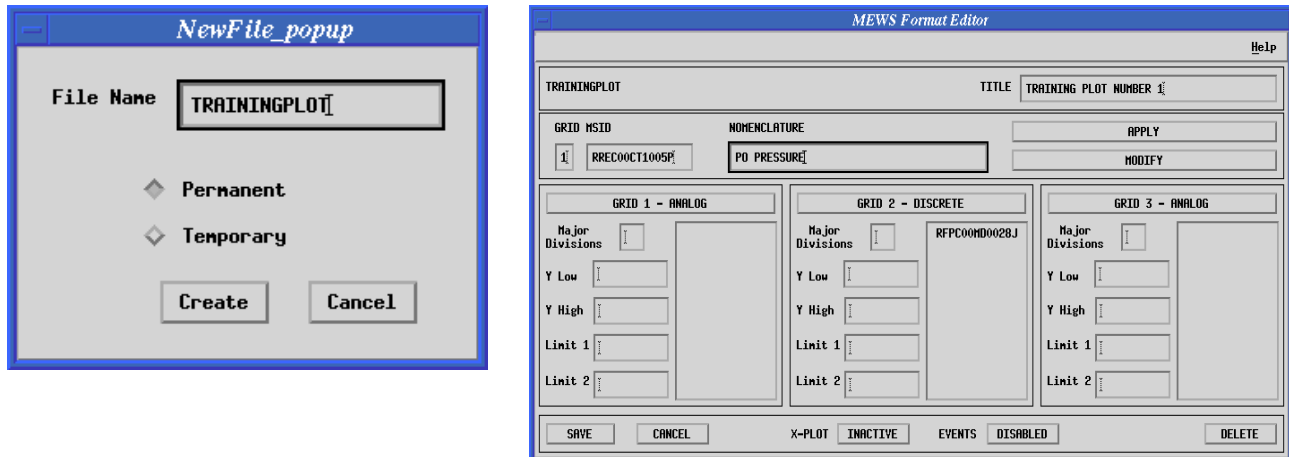

Figure 4-19. More MEWS plot windows
3. Click on **Format**, then **Create Format File**. The Format Name is defined in the first window (Figure 4-19), Unix format. This should be something descriptive of the data to be plotted. Type in the name of the file and click on **Permanent** if this format is to be available for future reference (something you plan on regularly using) or **Temporary** if this is going to be used only for a day. Then click **Create**. This brings up the MEWS Format Editor.